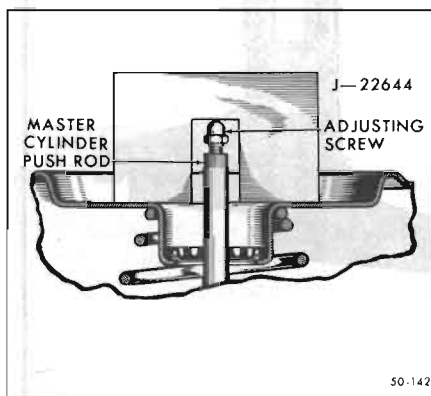

Figure 50-80—Gaging Master Cylinder Push Rod
2. Place Gage J-22644 over piston rod so that it fits between studs on front shell. It should be parallel to studs and resting on surface of shell. The cutout portion of gage should never be lower than end of piston rod and gap between cutout in gage and end of piston rod should never be more than .010 inch. See Figure 50-80.